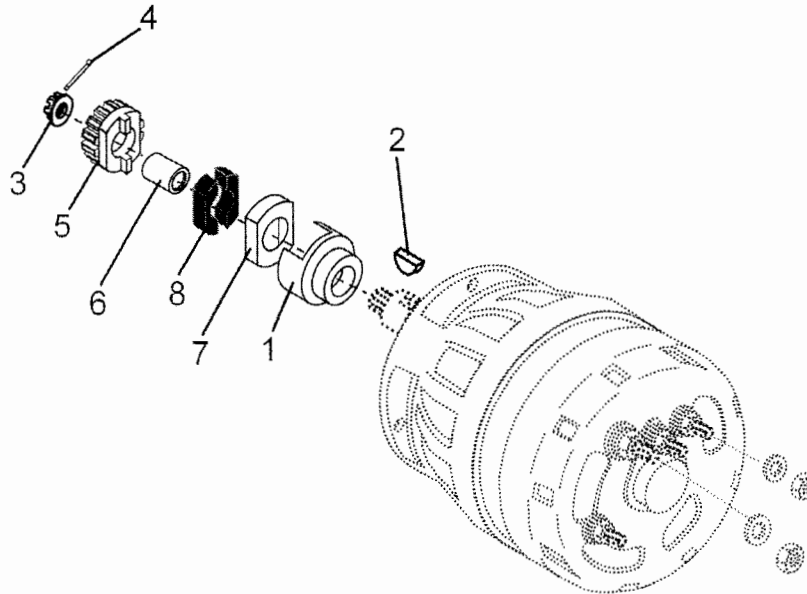
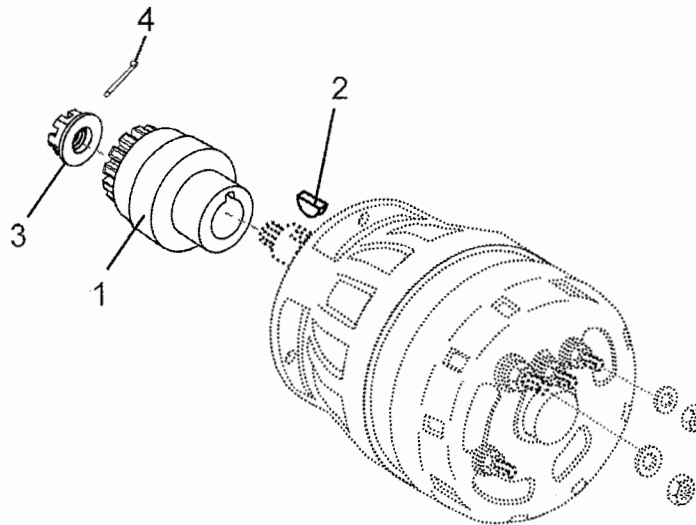

Figure 10-8. Multi-Part Alternator Drive Hub
Figure 10-9. One Piece Alternator Drive Hub
2. Remove the cotter pin (Figure 10-8 or Figure 10-9) (4) and castellated nut (3); discard the cotter pin (4).
3. Remove the drive hub assembly (1) from the alternator shaft; inspect the Woodruff key (2), discard the Woodruff key if damaged or unserviceable.
1. The Woodruff key (Figure 10-8 or Figure 10-9) (2) is factory installed on the shaft; replacement is not required unless the Woodruff key is damaged. Verify the Woodruff key is present and serviceable.
3. Align the slot in the alternator drive hub (1) with the Woodruff key and install the hub on the shaft. For single piece drive hub proceed to step 5. For the multi-piece drive hub assembly, continue with the next step.
- a. Inspect the retainer (7) for physical damage; replace as required. Install the retainer (7) on the shaft with the bushing tray facing away from the alternator.
- b. Install the sleeve (6) on the alternator shaft.
- c. Inspect the bushings (8) for physical damage, cracks, chips, or erosion. Replace on condition. Install serviceable, or new, bushings (8) in the tray of the retainer.
- d. Install the gear (5) on the shaft and align the drive lugs with the recess between the bushings.
5. Install the castellated nut (3) on the threaded end of the alternator shaft to secure the assembly.
6. Place the toothed portion of the drive hub gear in shielded vise jaws and tighten vise just enough to prevent rotation during the torquing of the nut (3).
7. Using a currently calibrated torque wrench, torque the castellated nut (3) to the minimum torque according to Appendix B specifications. If the slots in the nut do not align with hole in the shaft, gradually increase torque to a maximum of 200 in. lbs. to align the castellated nut (3) with the cotter pin hole. If alignment cannot be achieved within the torque limits, replace the castellated nut (3).